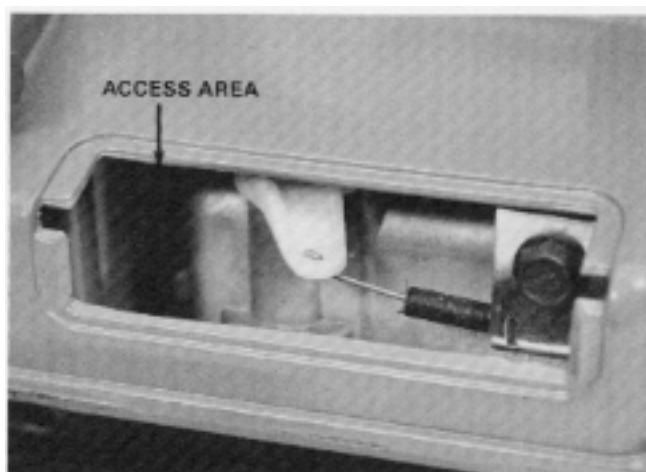

Figure 40
3. Raise and support the rear of the mower approximately 30 cm (12") off the ground. Remove the transmission access cover by pressing from underneath. See Figure 40.